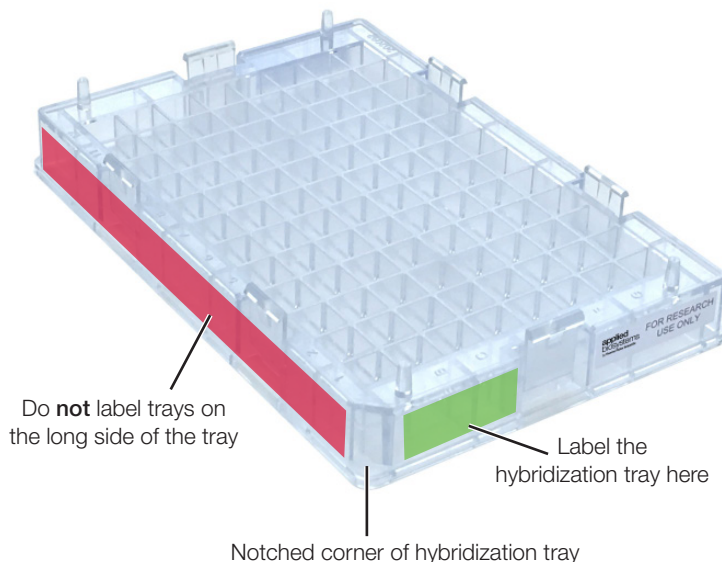

Figure 1. Labeling hybridization tray
2. Label the hybridization tray; please refer to Figure 1 and the IMPORTANT note below the figure.